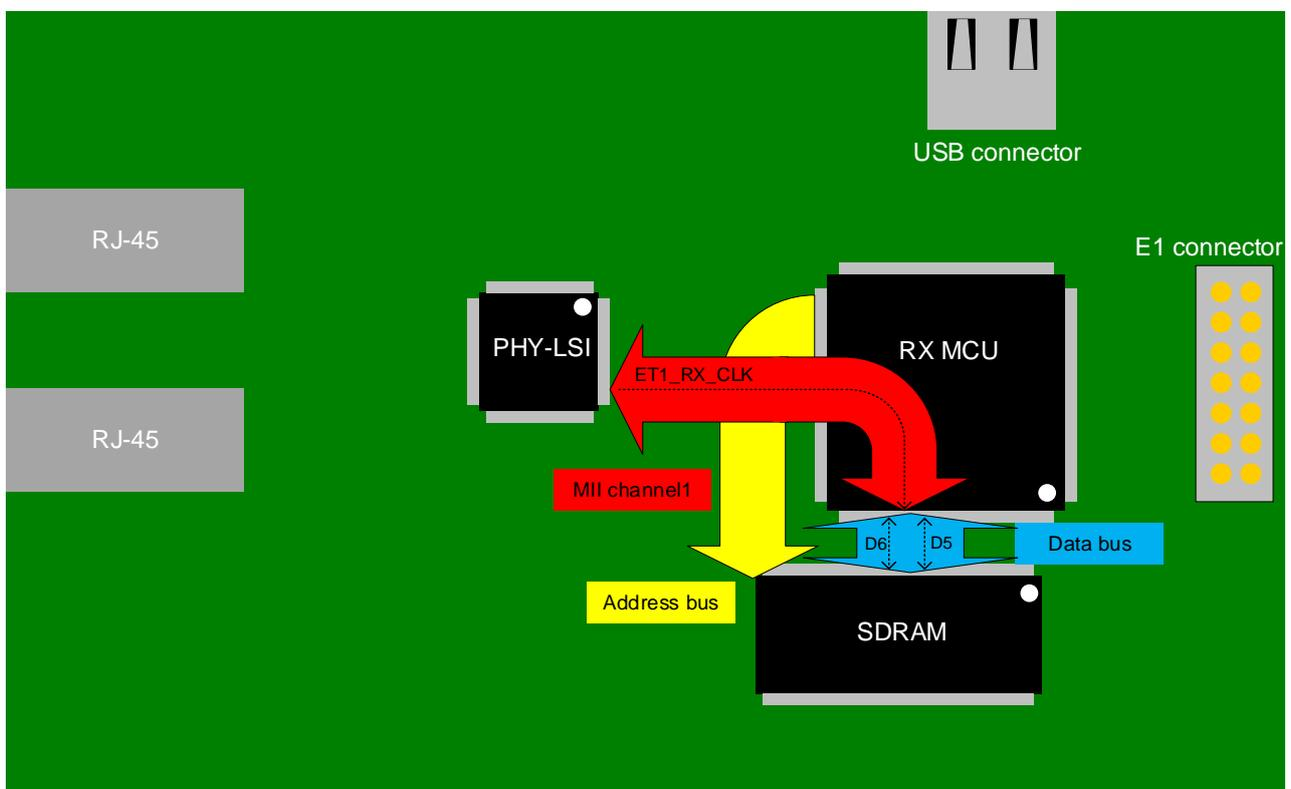

Figure 1 Component Layout
The component layout of the Ethernet communication board is shown in Figure 1, and precautions during layout are described below.
- Lay out the components such that the SDRAM data bus and the media independent interface (MII) or reduced media independent interface (RMII) signals (particularly ET1\_RX\_CLK on MII channel 1) are as short as possible and do not run alongside one another. In particular, be sure that the signal patterns of ET1\_RX\_CLK and D5/D6 (of the SDRAM data bus) do not run parallel to one another. (See Figure 1.)